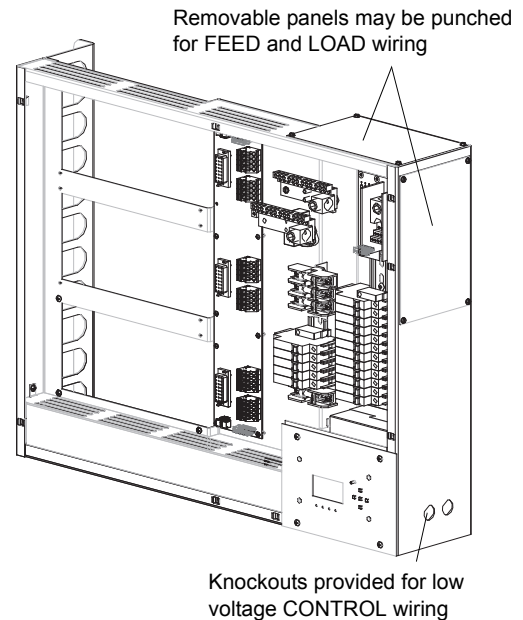

Figure 3: Wiring Inputs
- Step 3. Remove wire access panel(s) as required. See **Figure 3**.
- Step 3. As required, remove wiring covers or knockout holes to accommodate wiring (see **Figure 3** on page 8).